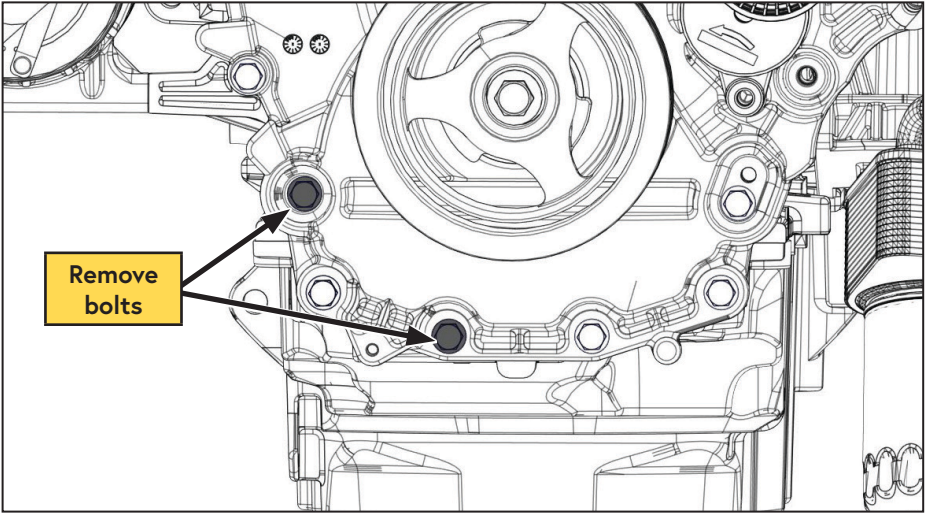

Figure 17 — Remove timing cover bolts
- Remove and discard the timing cover bolts (Figure 17).